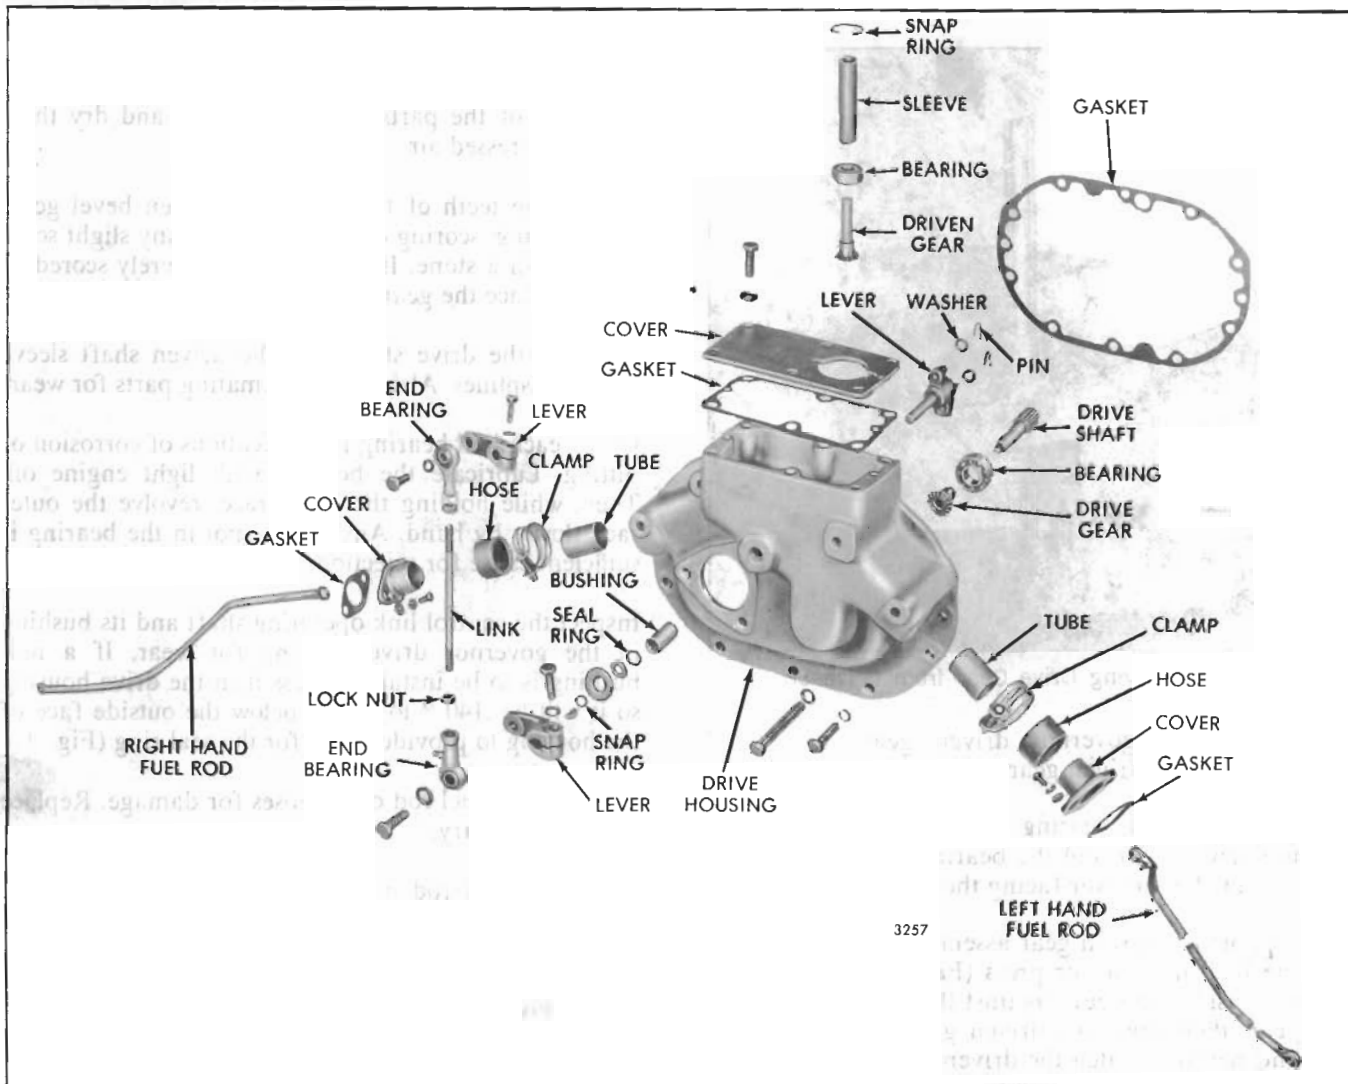

Fig. 6 - Details of Hydraulic Governor Drive and Relative Location of Parts
3. Remove the snap ring securing the governor driven gear bearing in the drive housing (Fig. 6), then pull the driven gear, bearing and driven gear sleeve from the bore in the housing.